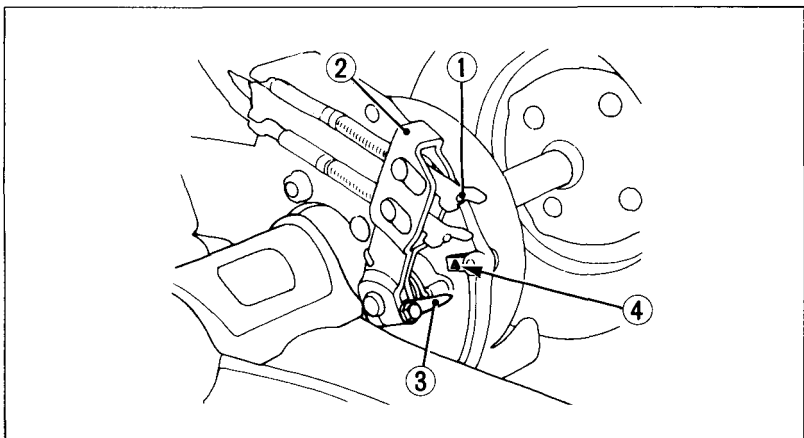

Fig. 4-28
Minor adjustments can be made with the adjuster (2) on the brake lever. Loosen the lock nut (3) and turn the adjuster. Major adjustments should be made using the brake lever adjusting nut on the brake arm (Fig. 4-28).
When the brake is applied, an arrow (3) attached to the brake arm (2) moves toward a reference mark (4) on the brake panel (see Fig. 4-28).